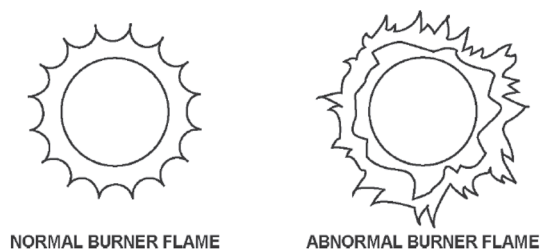

Figure 50. Normal and Abnormal Burner Flames
You should also check for sooting. Soot is not normal and will impair proper combustion. A visual inspection of the main burner and igniter assembly should also be done at least once a year. See *Figure 50*.
- Cause no excessive lifting of flame from burner ports. See **Figure 50**.